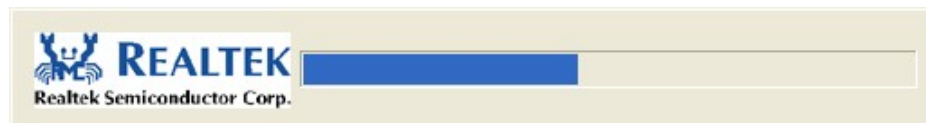

Figure 5-24: Audio Driver Installation
Step 7: The audio driver installation begins. See **Figure 5-24**.